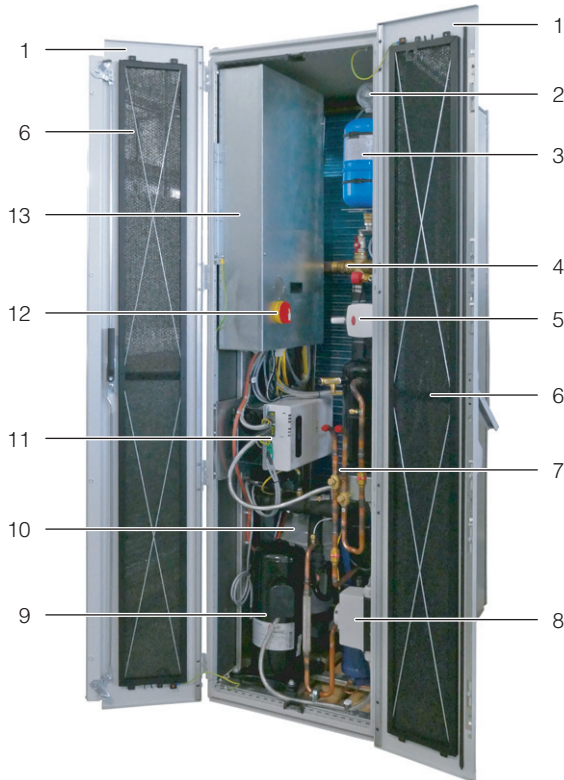

Fig. 4: LCP DX/FC rear – rear door open
On the rear of the LCP DX/FC, there is also an expansion tank for the water circuit (fig. 4, item 3) and the relevant pipework (fig. 4, item 4).